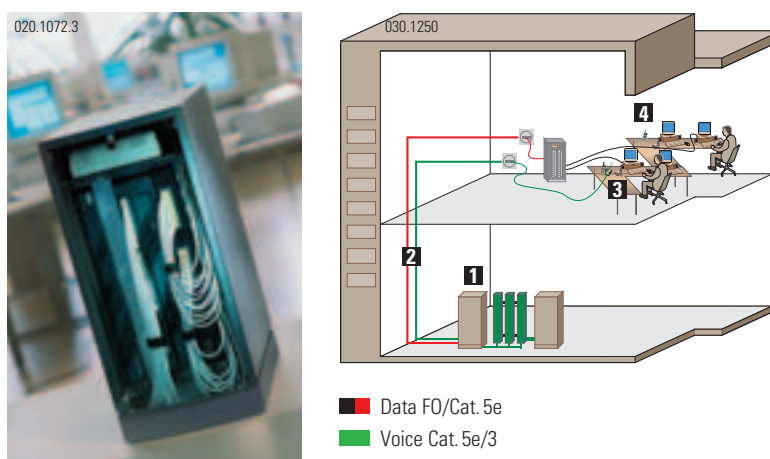

Figure 3: Single Point of Administration, open office cabling for medium and large enterprises
The term Single Point of Administration refers to the integration of the secondary and tertiary cabling levels based on a single transmission medium, namely fiber optics. Active components are only required at the end of the FO link (2). Electro-optical conversion, routing and any switching in the floor distributor that may be necessary, are no longer required. The building distributor (1) and the mobile distributor maxiCase 48 incorporating the respective active components, provide the Fiber-to-the-Office solution. As shown in the example in Figure 3,